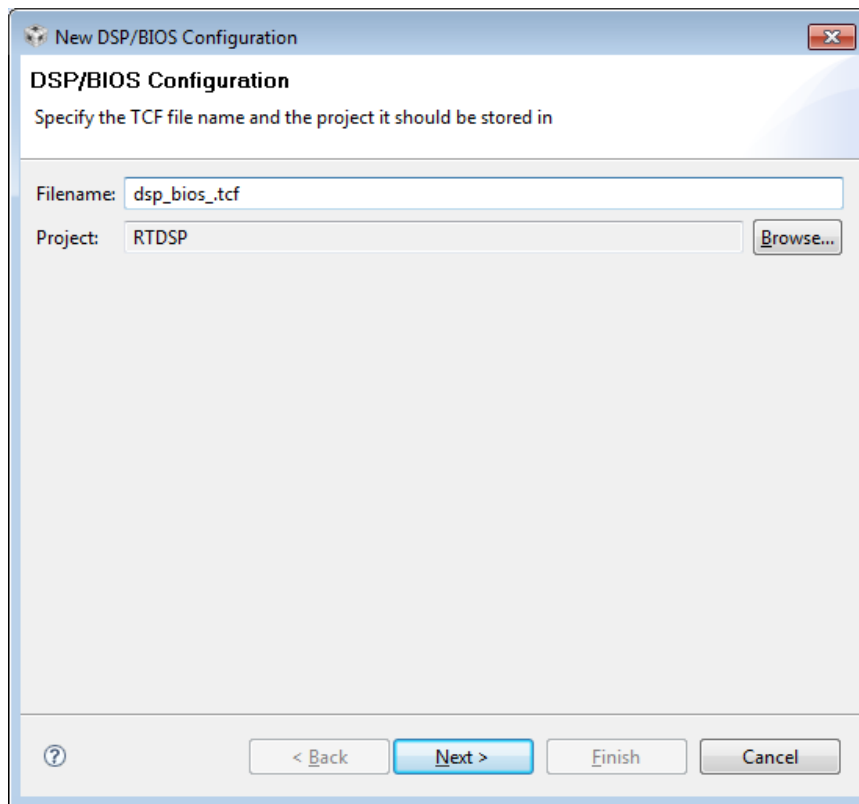

Figure 4: Setting up DSP/BIOS
- In the **Filename** box type `dsp_bios_.tcf` so that it looks like figure 4. Note there is an underscore between BIOS and tcf